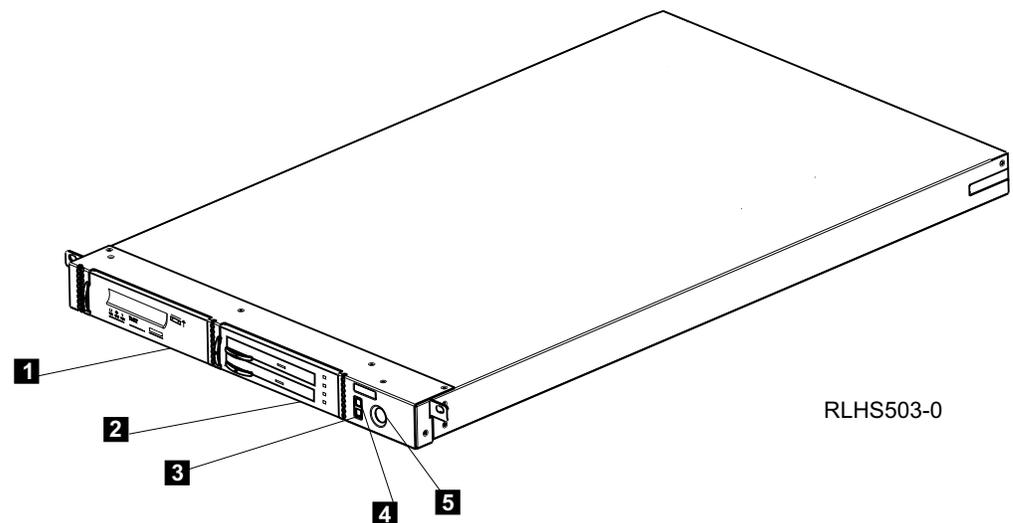

Figure 1. Front view of the 7214 Storage Enclosure
Figure 1 shows the 7214 Storage Enclosure with a DAT-72 4mm tape drive installed in Bay A and a DVD assembly with two DVD drives installed in Bay B.
**Bay A** Bay A, **1** on the left front of the 7214 Storage Enclosure (see Figure 1 on page 1), can accommodate a single tape storage device or a bay blank.
**Bay B** Bay B, **2** on the right front of the 7214 Storage Enclosure (see Figure 1 on page 1), can accommodate a single tape storage device, a DVD assembly tray, or a bay blank.